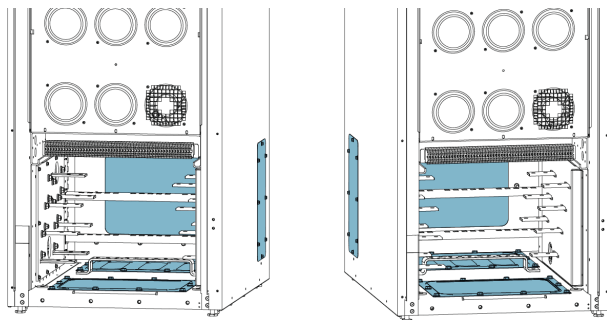

Figure 10. Transformer cabinet through holes
4. Route the power cables through the through hole of your choosing. See Figure 10 for more information.